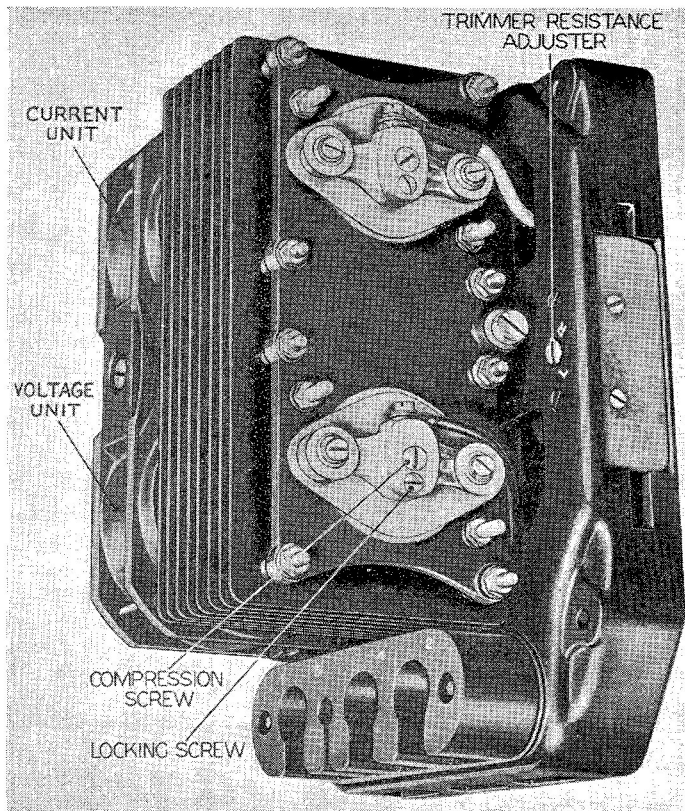

Fig. 1. Voltage regulator, Type J4A
3. The voltage regulator, Type J4A (*fig. 1*), incorporates a voltage control unit and a current limiting unit, the current unit being